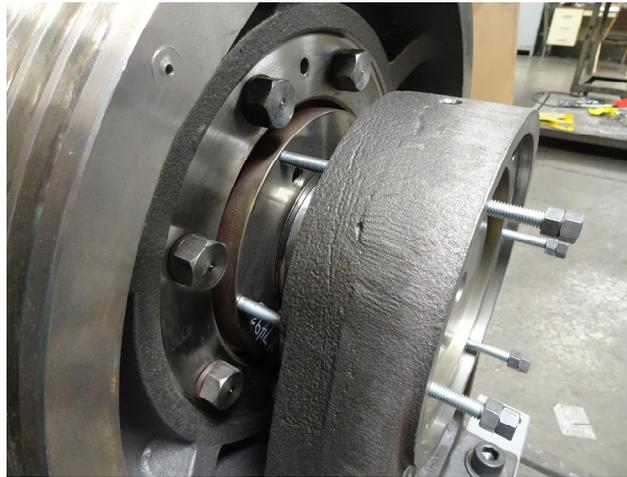

Figure 5
- **Step 2: Install All-Thread Guide Rods** (See Figure 5)